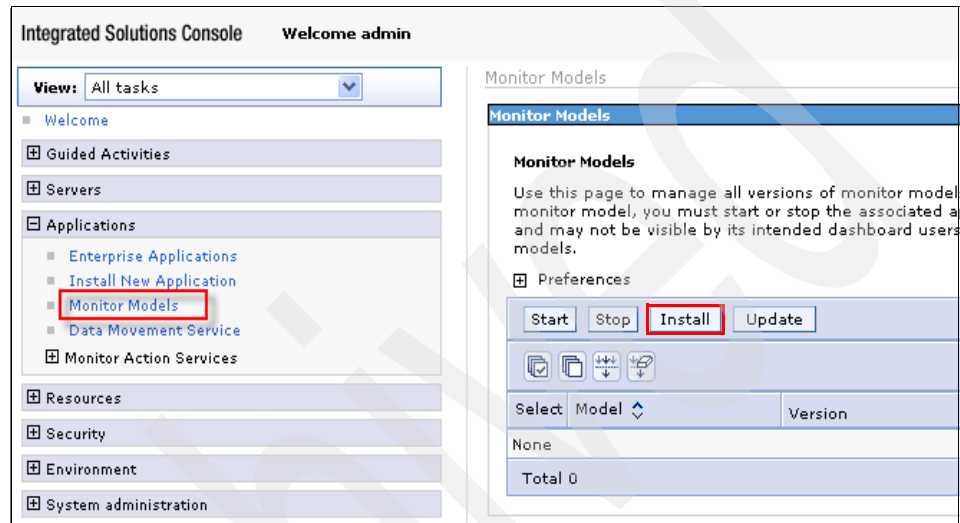

Figure 3-35 WebSphere Administrative Console: Monitor Models
1. From the WebSphere Administrative Console, expand **Applications** and click **Monitor Models**. The table in the right pane lists all currently installed monitor models (Figure 3-35).